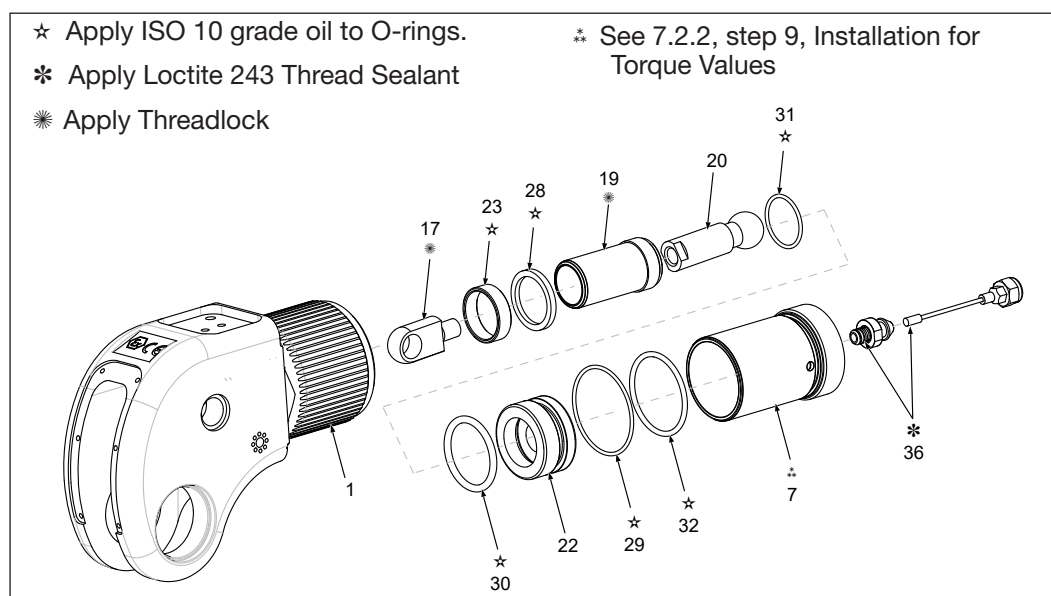
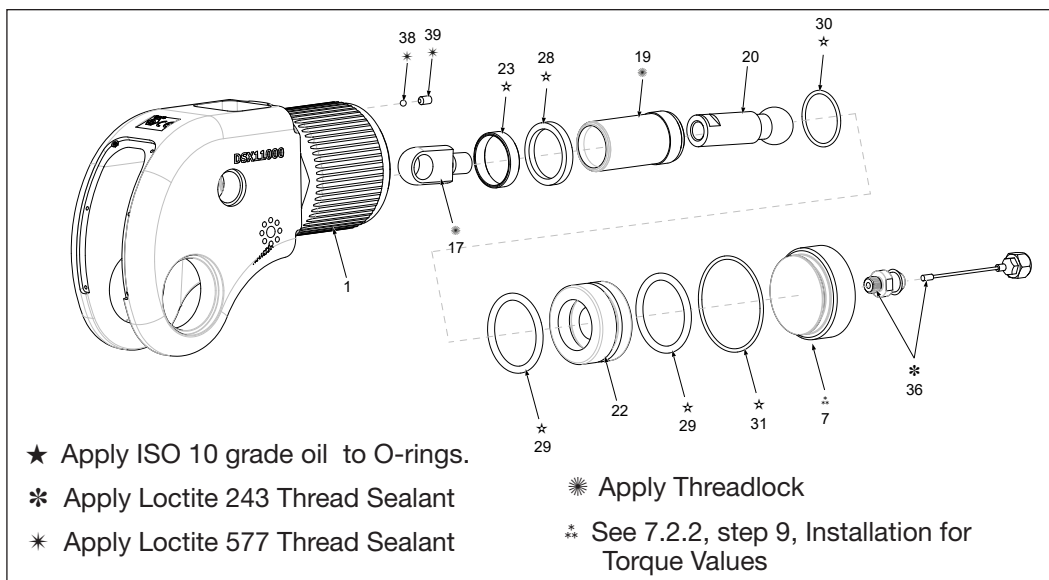

Figure 13: Exploded DSX1500, DSX3000, DSX5000 Pistons
Figure 14: Exploded DSX11000, DSX25000 Pistons
1. Install a new O-rings (D) into the grooves on the swivel post (E).
2. Coat O-rings (D) with a small amount of silicone grease. Then, carefully slide the swivel assembly (B) onto the swivel post (E).
3. Reinstall the circlip retainer ring (A).
7.2.2 Piston Assembly (Fig. 13/ Fig.14)
1. To separate the reaction arm from the wrench body (1) unscrew and remove the wire assembly first by unscrewing the nut followed by the rest of the assembly (36).
3. Firmly hold the wrench body (1). Using an appropriate pin spanner, unscrew and remove the piston sleeve (7), followed by the freed piston assembly. Remove the O-ring (32) from the piston sleeve.
4. **DSX11000/ DSX25000 only** - remove the grub screw (39) and ball bearing (38) from the wrench body for inspection and cleaning. Reassembly after Loctite 577 has been applied. Loctite must be fully cured before testing.
5. Remove seal from piston head (22) separate rod end (17) from piston rod (20) separate piston head (22) from piston (19) remove internal O-Ring from piston head.
6. Remove the rod seal (28) and piston bush (23) if they are still present in the wrench body.
• Reassembly and Installation (Fig. 13/ Fig.14)